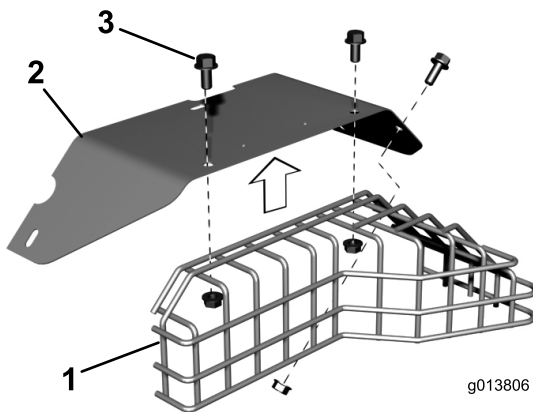

Figure 5
8. Remove the (3) flange head screws and flange nuts securing the muffler shield to the exhaust shield (Figure 5). Retain the exhaust shield and (2) of the flange head screws and flange nuts.